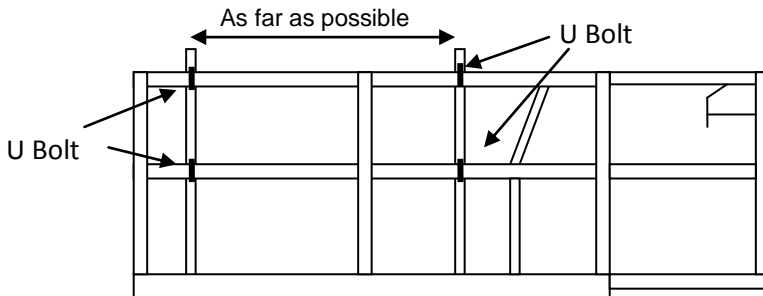

Figure 1.2 Rio Bar & Tube Handler attachment installation – Deck extended
4. Lift Attachment should be secured to the side of scissor lift with given U bolts to be used in the main deck area only as per figure 1.2 & 1.3